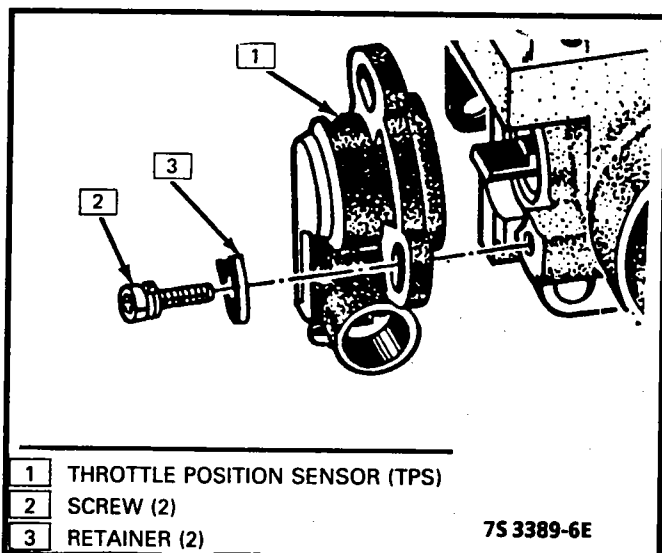

Figure C1-24 - Throttle Position Sensor Service 2.8L
1. With throttle valve in the normal closed idle position, install Throttle Position Sensor on throttle body assembly (See Figure C1-24)